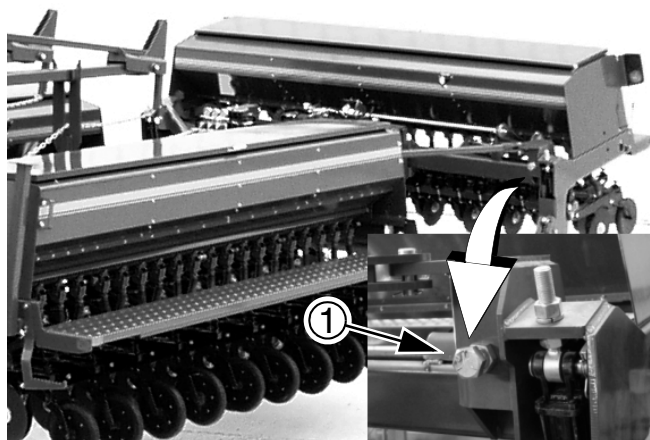

Figure 38
### Refer to Figure 38
2. Pull forward against blocks to rock wing frames back. Pull forward until stop bolts ① are firmly against toolbars. Refer to Figure 38 for stop bolt location.